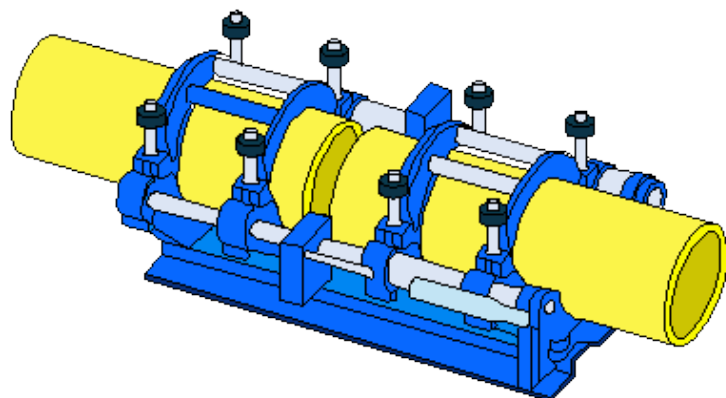

Figure E.3 – Butt Fusion Check Cycle
27. When the machine has pulled the pipe apart remove the trimmer and avoiding contact with the trimmed ends remove the swarf from around and inside the pipe avoiding contact with the trimmed ends, see Figure E.3.